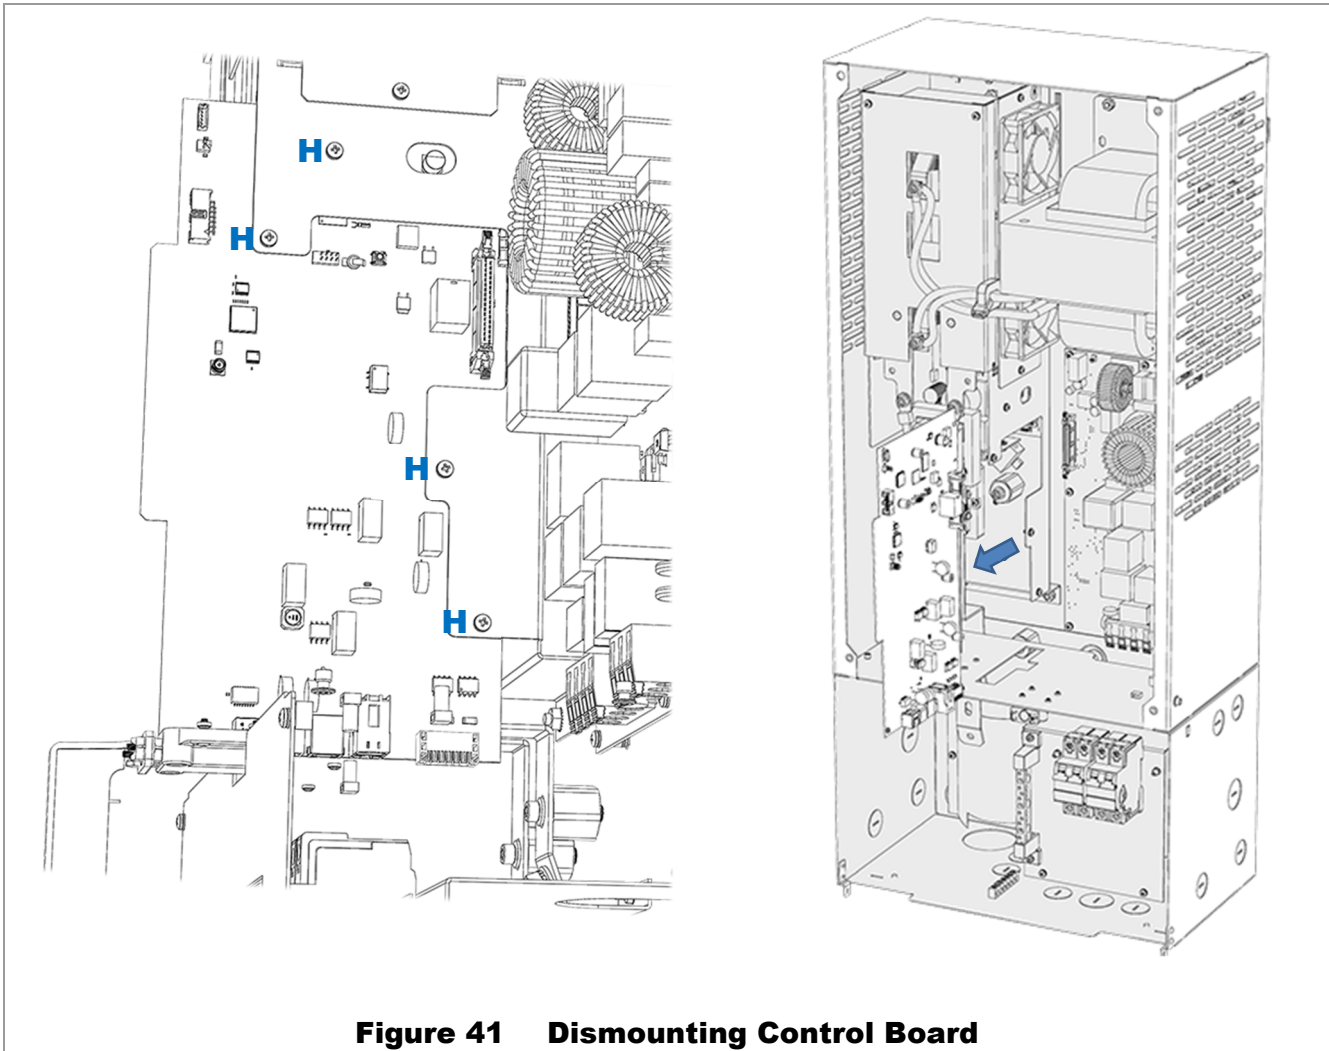

Figure 41 Dismounting Control Board
4. Using a #2 Phillips screwdriver, remove 4 screws **H** from the control board. See Figure 41.
5. Carefully remove the control board, pulling toward the front of the inverter, as shown in Figure 41.